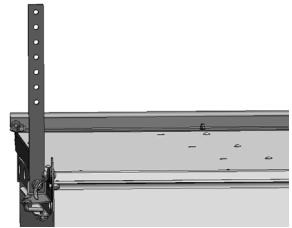

Figure 2
- 2) **Forming Shield Rear Height Adjustment.** See Figure 2